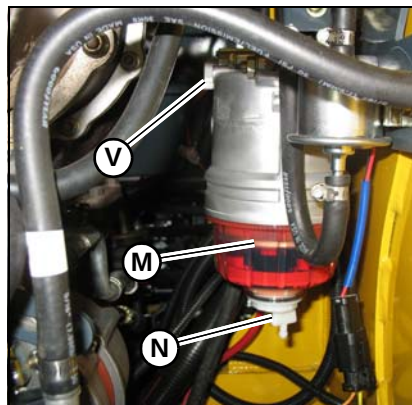

Figure 98 – Water Separator
3. Inspect the water separator (Figure 98) for the presence of water:
- If the indicator ring (M) is at the bottom of the cup, no action is required.
- If the indicator ring (M) is floating off the bottom of the cup, water is present and needs to be drained.
5. Turn the fuel valve lever (V) on the water separator to the OFF position.
6. Loosen drain plug (N) at the bottom of the water separator. Allow water to drain until indicator ring falls to the bottom of the cup.
3. Turn the fuel valve lever (V, Figure 98) on the water separator to the OFF position.
6. Turn the fuel valve lever (V) on the water separator to the ON position.